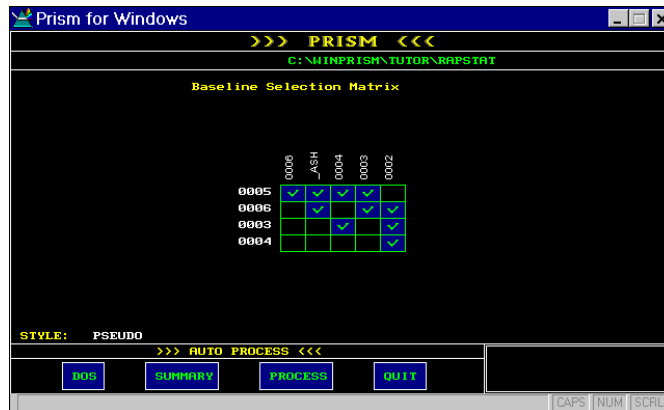

Figure 8.38: Static Screen
2. For static data you will get a display similar to Figure 8.38.